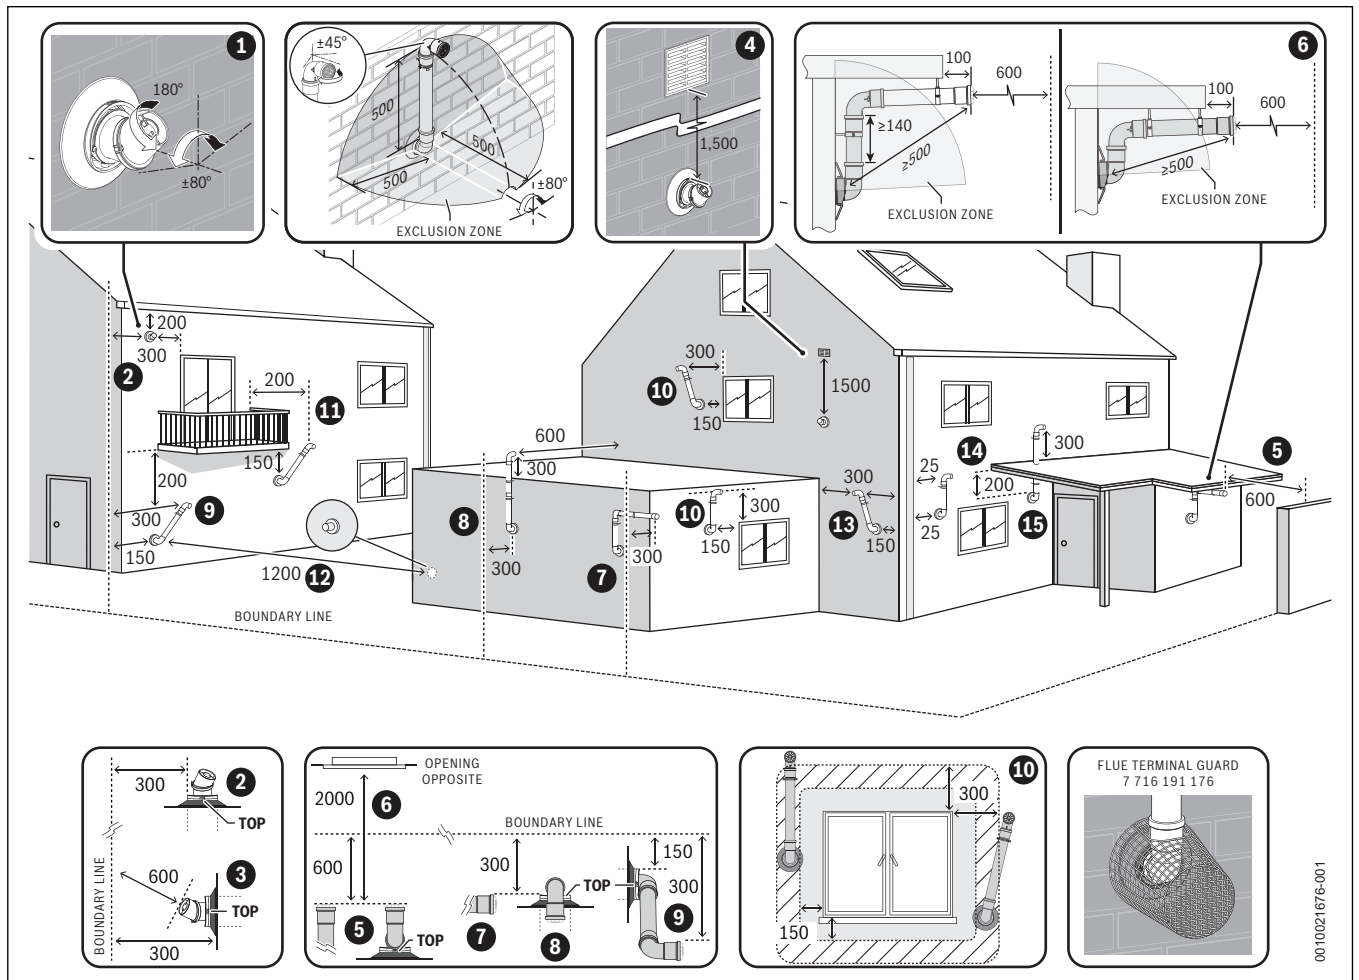

Fig. 28 Plume re-redirect and plume management terminal positions
- ▶ Refer to “Horizontal flue terminal positions” for all concentric flue terminal positions unless the flue position is specified in figure 28 “Plume re-direct and plume management terminal positions”.
**Key to figure 28 - Plume re-redirect terminal positions:**
**Key to figure 28 - Plume management terminal positions:**